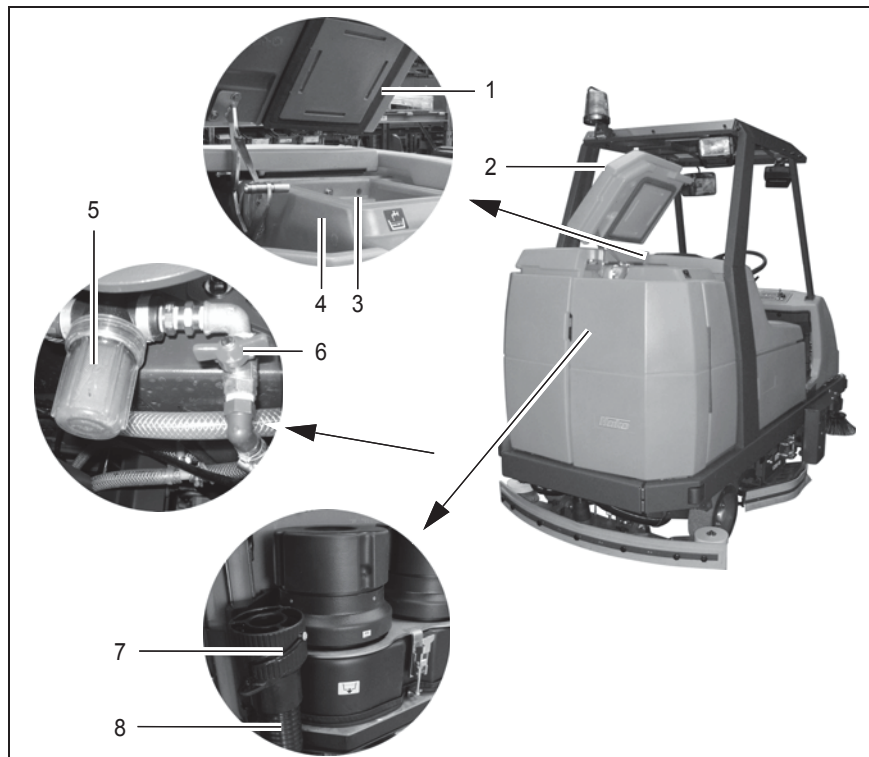

Fig. 30
Fill the fresh water tank (Fig. 30/4) with fresh water and cleaning agent before starting with the work, also refer to Section 3.1.5.
2. Open the tank lid (Fig. 30/2) and lock in place.
5. Close the lid (Fig. 30/2) on the fresh water tank.
10. Close the lid (Fig. 30/2) on the fresh water tank.
12. Close the lid (Fig. 30/2) on the fresh water tank.
If the vehicle is to be left unused for a longer period, the fresh water tank (Fig. 30/4) should be emptied.
1. Park the vehicle so that the draining hose for fresh water (Fig. 30/8) can be positioned over a drain in the floor.
4. Detach the fresh water draining hose (Fig. 30/8) and lower it slowly.
5. Unscrew the cap (Fig. 30/7) to open it. The quantity drained can be regulated by turning the screw cap and pivoting the cap open fully, if necessary.
- The screw cap (Fig. 30/7) at the end of the draining hose (Fig. 30/8) should be cleaned at regular intervals.
The fresh water supply is equipped with a filter (Fig. 30/5) which must be cleaned if dirt appears on the container. This is located on the left-hand side of the vehicle at the height of the brushes behind the side panel.
1. Close the ball cock (Fig. 30/6) to prevent fresh water being supplied from the tank.